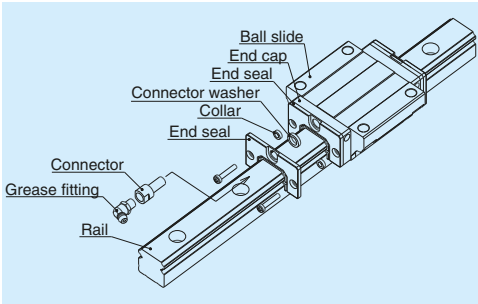

Fig. 7.2 Double seal
(1) Double seal
- Double-seal set: Can be installed to a completed standard ball slide assembly later upon request. It comprises two end seals, two collars, and two machine screws for installation (**Fig. 7.2**). The product reference numbers of each model are described in the dust resistance section of a model's technical description.
- Attaching a grease fitting to the end cap after the double seal is equipped requires a connector shown in **Fig. 7.2**. Please specify the connector set when ordering linear guides.